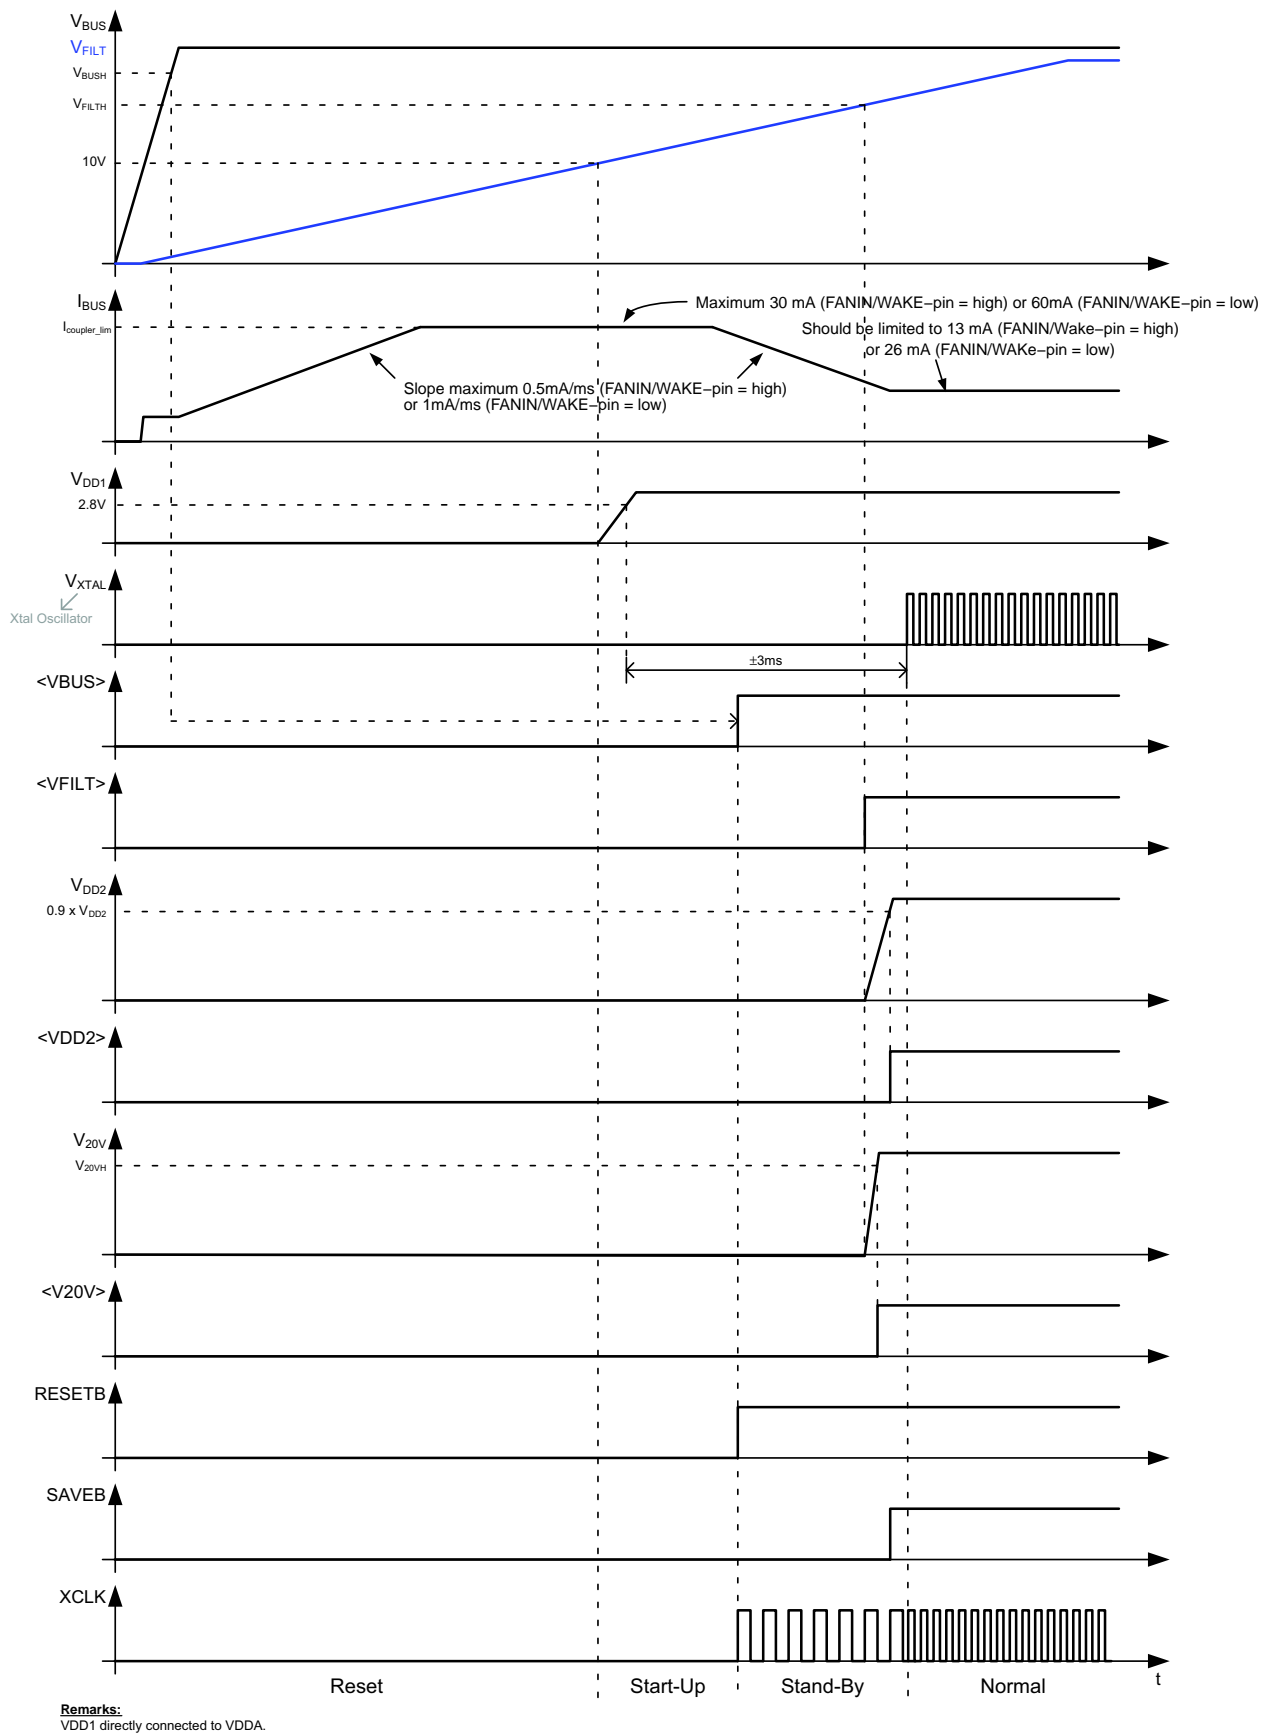

Figure 21. Start-Up Behavior
After power–up, a 4 MHz (Note 3) clock signal will be present on the XCLK–pin during Stand–By. When Normal State is entered, a 8 or 16 MHz clock signal will be present on the XCLK–pin. See also Figure 21.
Figure 21 gives a detailed view on the start-up behavior of NCN5120. After applying the bus voltage, the filter capacitor starts to charge. During this Reset State, the current drawn from the bus is limited to  $I_{coupler}$  (for details see the KNX Standards). Once the voltage on the filter capacitor reaches 10 V (typ.), the fixed DC-DC converter (powering VDDA) will be enabled and the device enters the Start-Up State. When  $V_{DD1}$  gets above 2.8 V (typ.), the OTP memory is read out to trim some analog parameters (OTP memory is not accessible by the user). When done, the Stand-By State is entered and the RESETB-pin is made high. If at this moment  $V_{BUS}$  is above  $V_{BUSH}$ , the VBUS-bit will be set (<VBUS>, see System Status Service, p34). After aprox. 2 ms the Xtal oscillator will start. When  $V_{FILT}$  is above  $V_{FILTH}$  DC2 and V20V will be started. When the Xtal oscillator has started, no Thermal Warning (TW) or Thermal Shutdown (TSD) was detected and the VBUS-, VFILT-, VDD2- and V20V-bits are set, the Normal State will be entered and SAVEB-pin will go high.